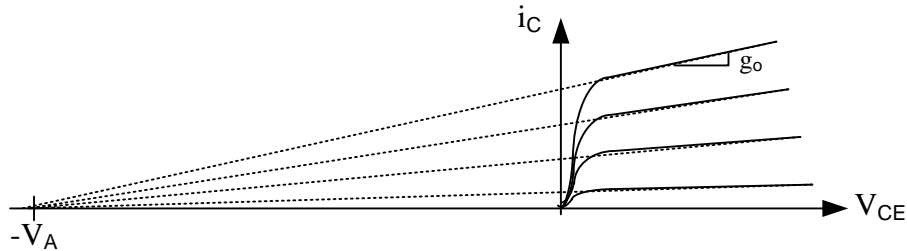

Fig. 3. Transistor's output characteristics for a family of V_{BE} voltages. $V_{BE0} < V_{BE1} < \dots < V_{BE3}$.
For a given V_{BEQ} , the collector-emitter voltage can also be swept leading to the transistor's output characteristics shown in Fig. 3. For small $V_{CE} (< 300$ mV), the potential is not large enough to attract the carriers traveling from the emitter to the base terminal, and the collector current is very small. If V_{BE} increases, the collector current increases following the exponential rule given by (2). The slope of one of the curves determines the output conductance, obtained as